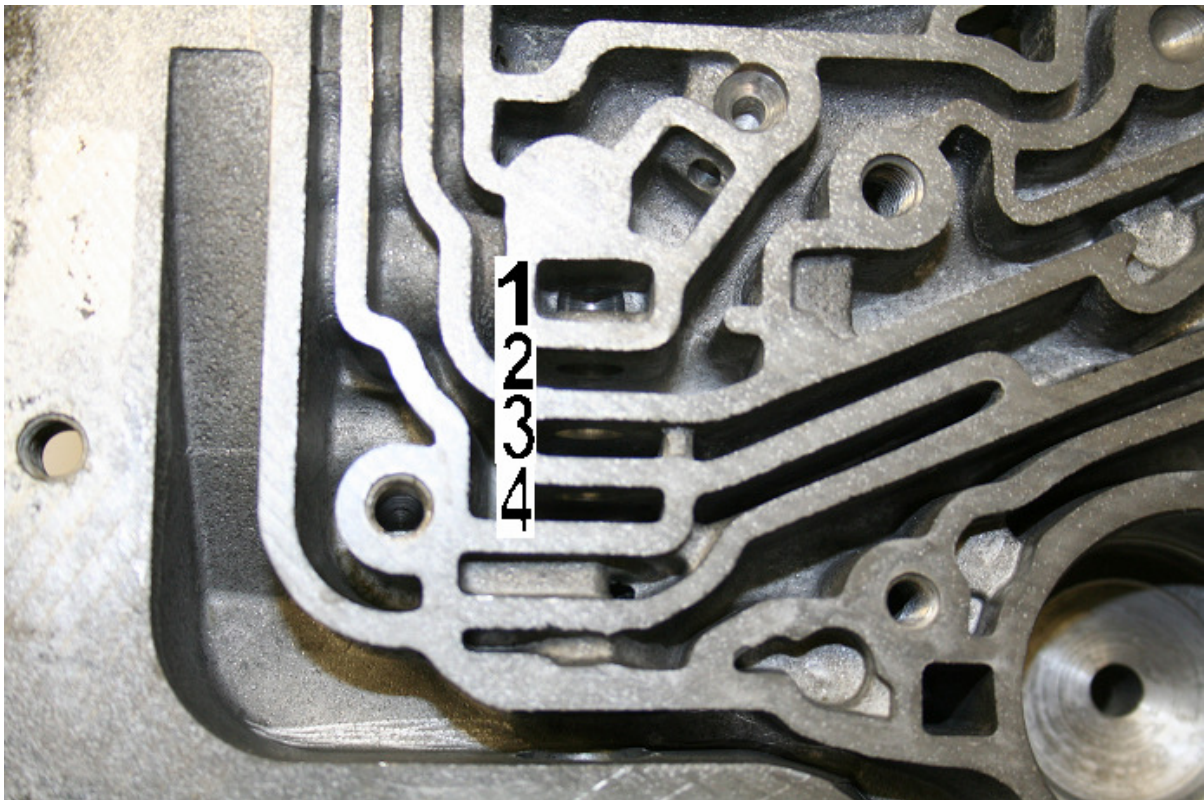

Figure 2
18. Check valve phasing when solenoid is applied and released. Refer to figure 2.
Refer to figure 2 to determine land locations